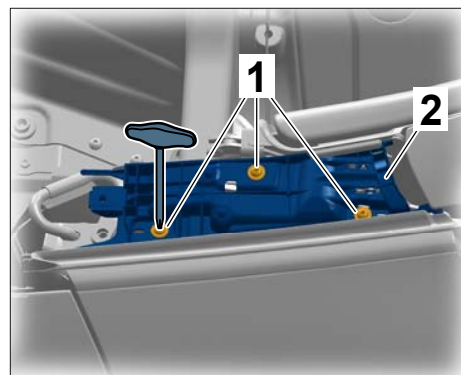

Figure 9
- 5.1 Unscrew fastening screws ⇒ *Figure 9 -1-* on mounting plate for side trim panel ⇒ *Figure 9 -2-*.